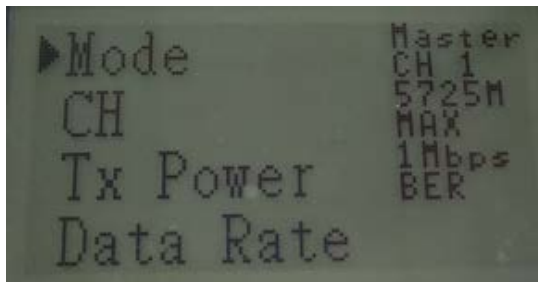

Fig.1
1. Press '↓' or '↑' button to move the cursor to 'Mode' as shown in Fig.1.